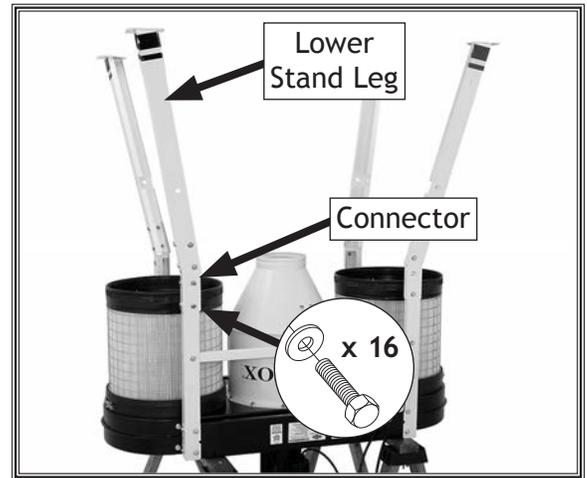

Figure 16. Lower stand leg attached to the leg connector.
- Slide the four lower stand legs onto the leg connectors, then connect them with (16) $\frac{3}{8}$ "-16 x $\frac{3}{4}$ " hex bolts and (16) $\frac{3}{8}$ " flat washers, as shown in Figure 16.